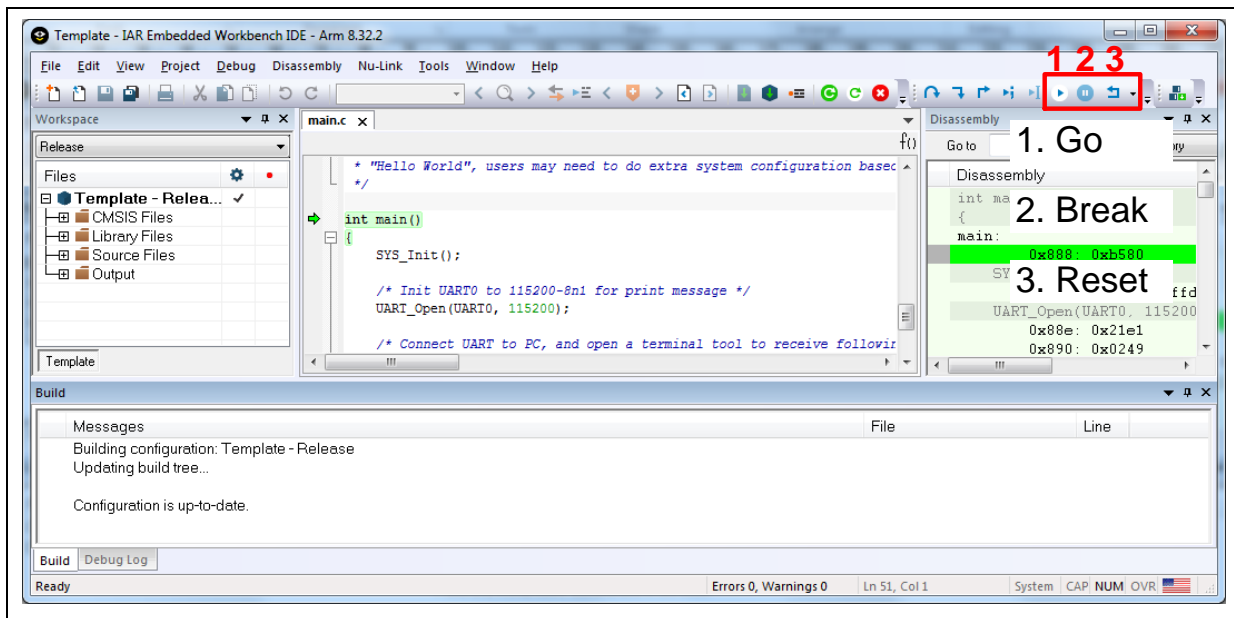
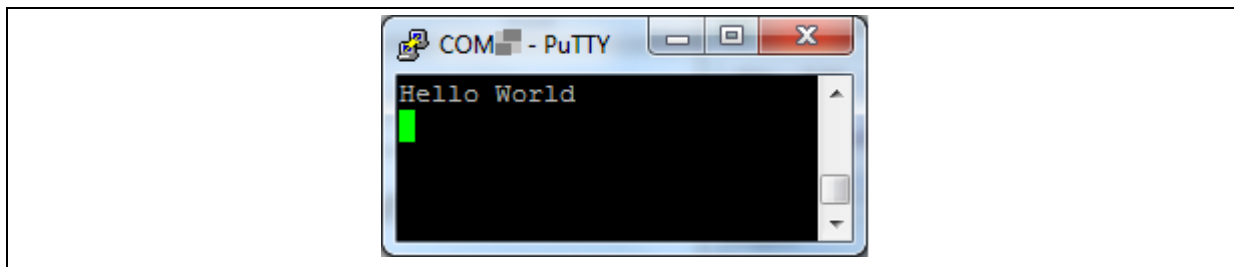

Figure 4-17 IAR EWARM Debug Mode
Figure 4-18 Debug Message on Serial Port Terminal Windows
- Figure 4-17 shows the debug mode under IAR EWARM. Click “Go” and the debug message will be printed out as shown in Figure 4-18. User can debug the project under debug mode by checking source code, assembly language, peripherals’ registers, and setting breakpoint, step run, value monitor, etc.